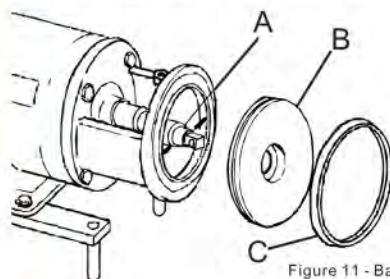

Figure 11 - Backplate Gasket
- 2.8 Rotate the backplate to disengage the backplate pins from the adapter pins. Remove the backplate with gasket attached (See Figure 11 item B and C), by pulling straight off the adapter. (See Figure 11 item A).